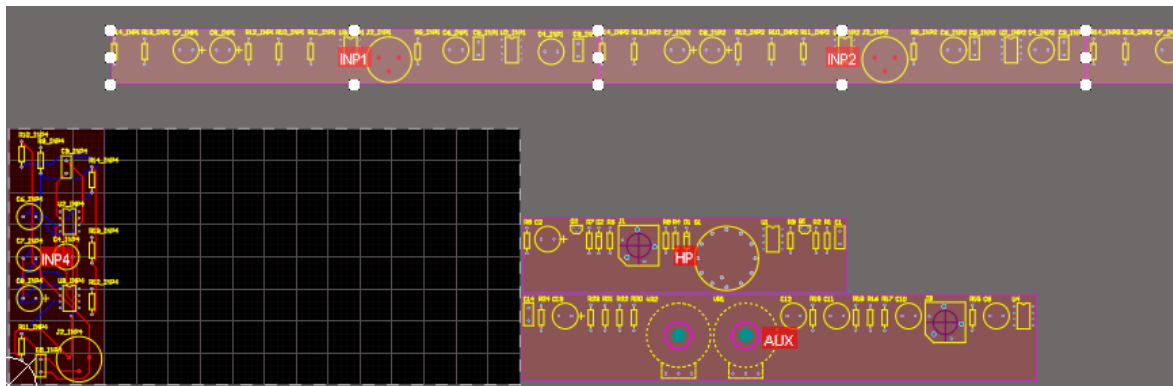

Figure 10. Room arrangement preparation for copy format
- d) Left-click above the board. The room arrangement should be similar to Figure 10.